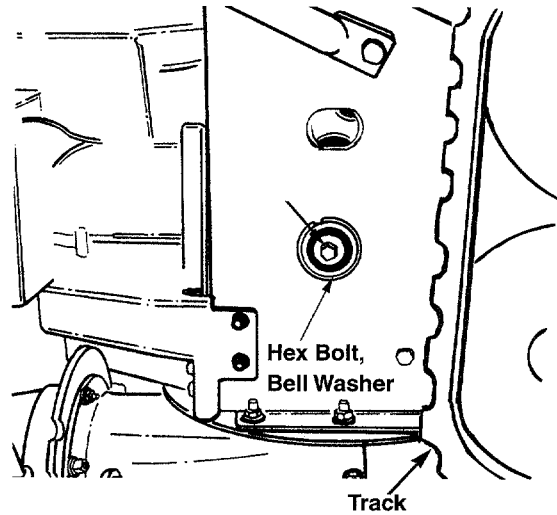

Figure 27
- Using a 7/8" wrench to hold the shaft, loosen, but do not completely remove, the hex bolt and bell washer from the left end of the shaft. See Figure 27.